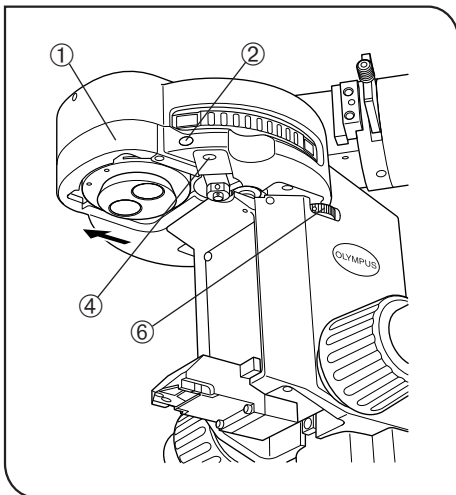

Fig. 8
3 Mounting the Zoom Microscope Body (Figs. 8 & 9)
1. Using the Allen screwdriver, loosen the clamping screws ② of the microscope mount adapter ① and pull out the adapter in the direction of the arrow. (Fig. 8)